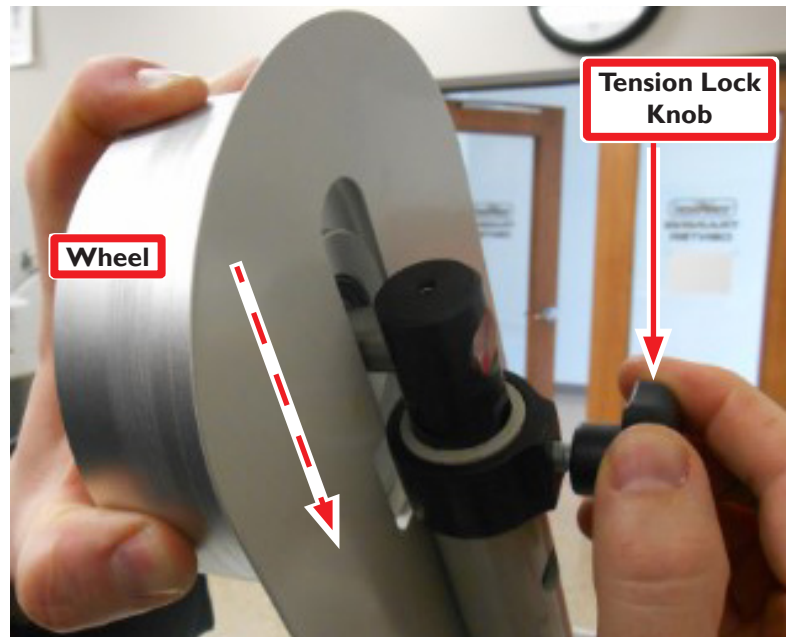

Figure 8
9. Loosen Tension Lock Knob and hold Wheel down (see **Figure 8**); tighten knob to hold wheel in down position.
10. Slide belt on and loosen Tension Lock Knob; spring pressure will apply tension to Belt (see **Figures 8 and 9**).